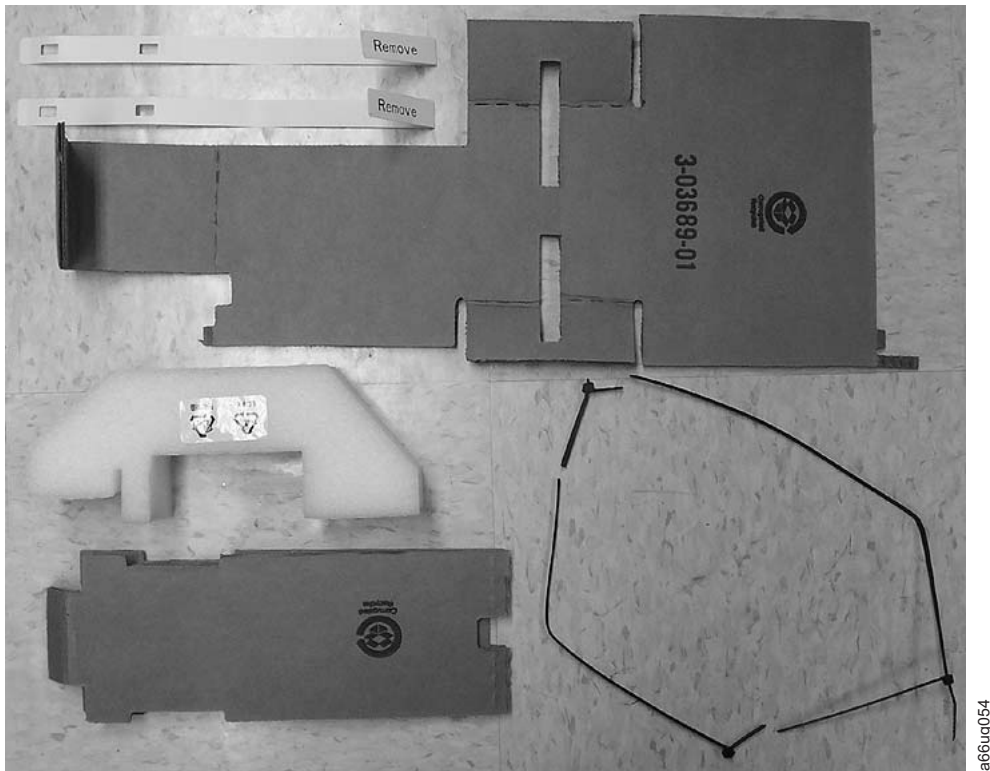

Figure 4-3. Library packaging material pieces
6. Refer to Figure 4-3 and ensure that you have removed all of the packaging material.